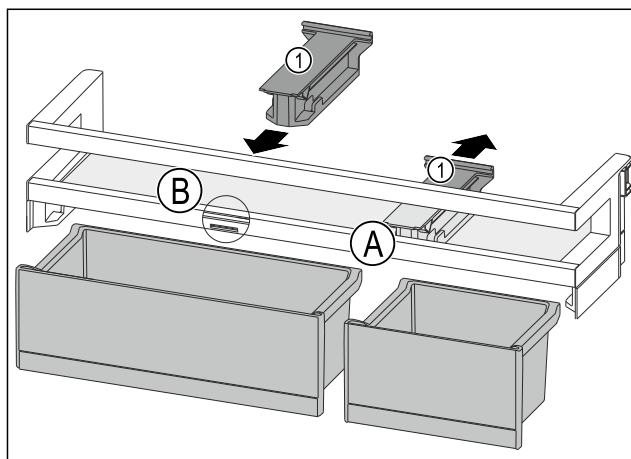

Fig. 85
- Pull off the retaining part Fig. 85 (1) in position Fig. 85 (A) downward.
- Insert the retaining part Fig. 85 (1) in position Fig. 85 (B).